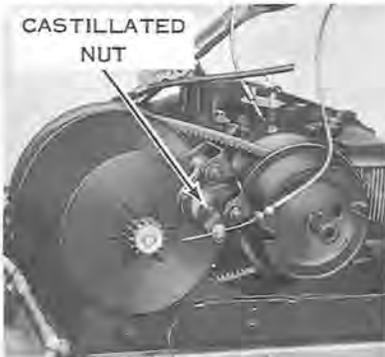

Figure 9-22. (1966)
- Tighten brake by removing cotter pin and turning castillated nut until there is a slight drag on the brake disc (see Figure 9-22).